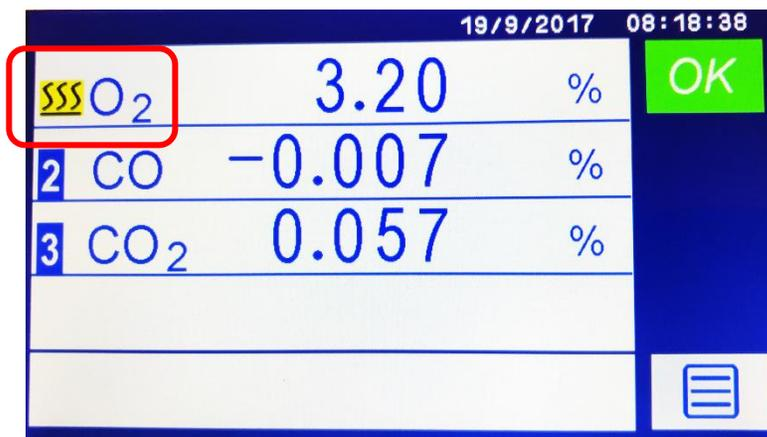

Figure 3-8: Home screen for a 3-transducer analyzer showing the O₂ warming up
3. When the analyzer is first switched on, the screen displays a software loading progress bar, followed by the Home screen and the warmup signal **SSS** appears in front of any transducer which operates under isothermal conditions (Figure 3-8).
Hint: Figure 3-8 shows the unit in Warm Up mode, indicated by the three wavy lines shown in the upper left corner encircled by the red box.